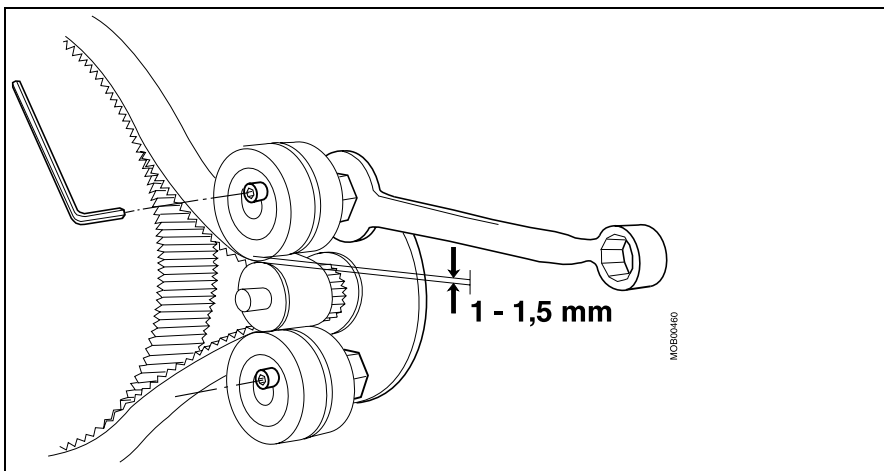
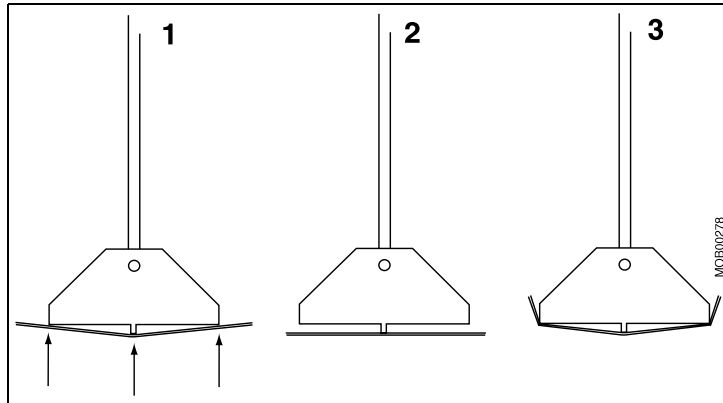

Fig. 77: Belt tension
Fig. 79: Measure belt tension
- Using the wrench, adjust the transmission belt tension equally on both tension bearings to a minimum distance of 1-1.5 mm between the bearing and the washer (Fig. 77 / p. 82). The tension of the transmission belt is correct when the adjustment mechanism and the belt touch at exactly three points (1/Fig. 79 / p. 83). In (2/Fig. 79 / p. 83) the belt is too taut and in (3/Fig. 79 / p. 83) too loose.